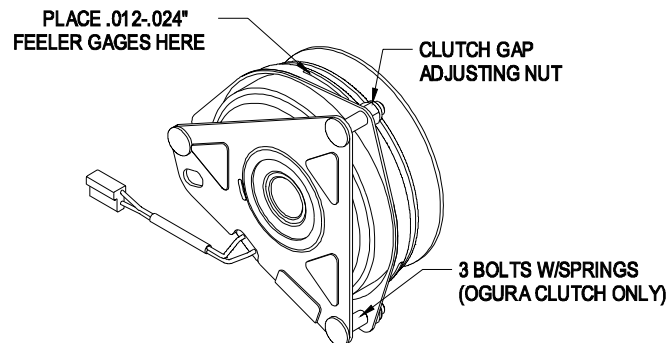

FIG. 16
Determine the brand of clutch installed on your unit. Ogura clutches can be identified by 3 bolts with springs. See Fig. 16. Warner clutches do not have these bolts.
- c) Place .012-.024 inch feeler gages through each of the three clutch gap holes. If gap exceeds this range, tighten the three adjusting nuts until the proper gap is obtained (See Fig.16). The three clutch gap holes are located at the “nut side” of the adjusting bolts. The adjusting bolts can be identified by the springs surrounding each bolt.